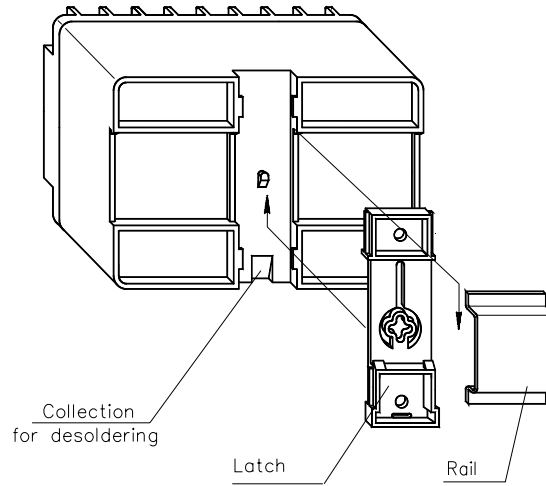

Figure B.1 Mounting of the Rail
- place a latch according to figure B.1 to link the protuberances of a case to edge of the rail;